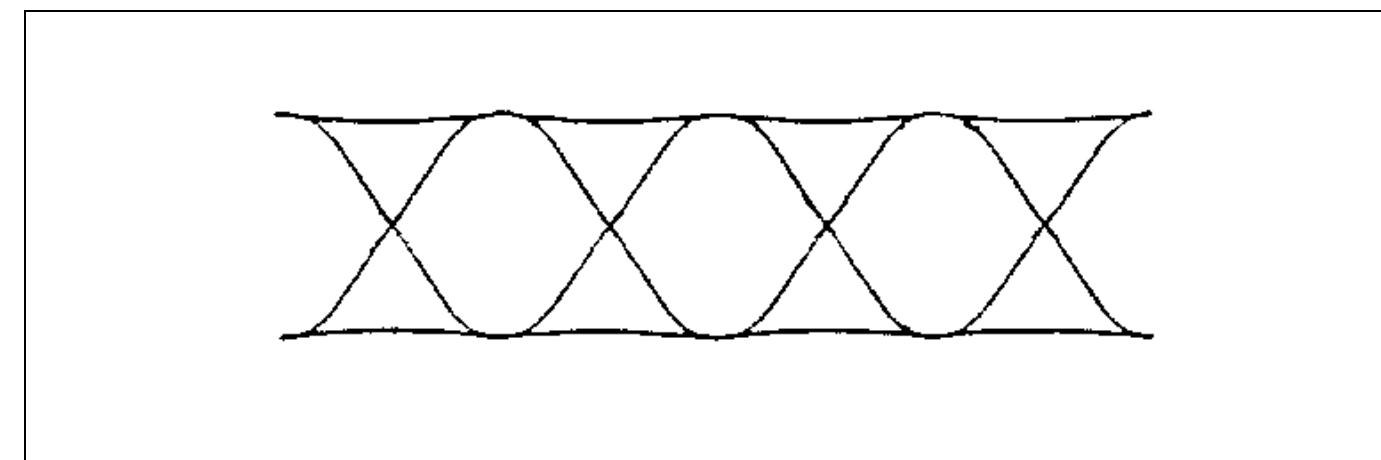

Figure 6 - Typical EYE Pattern
4. Verify the 4800 baud EYE pattern is generated and that the output is between  $\pm 1.4$  kHz and  $\pm 1.7$  kHz deviation. See Figure 6 for typical EYE pattern.